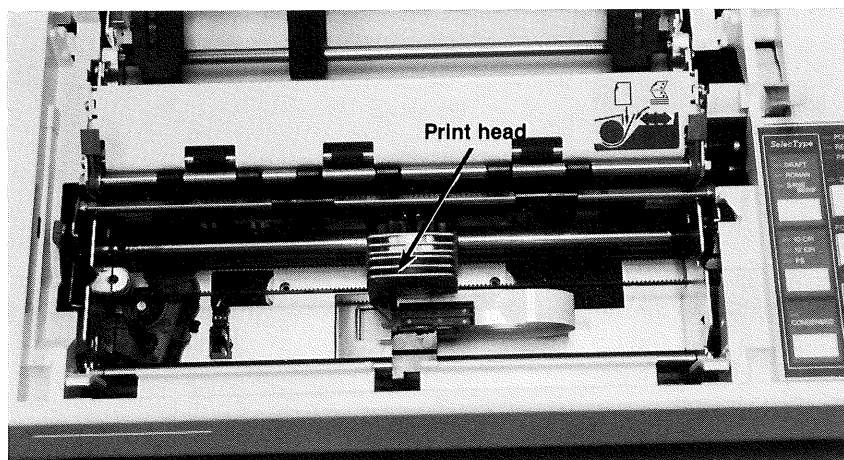

Figure B2.
3. If the printer has been in use, wait a few minutes to allow the print head to cool. Move the print head to the center of the printer. See Figure B2.